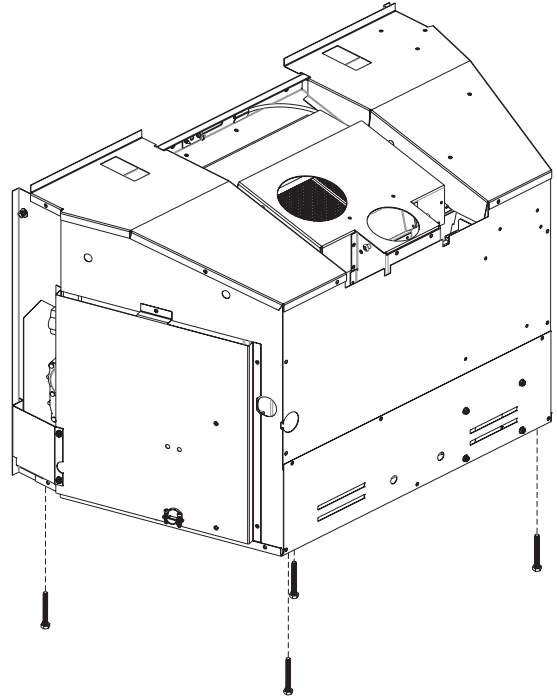

Figure 11
Figure 11 shows the vent termination cap and system approved for use with these models. Approved vent system terminations are labeled for identification. Use 3-inch diameter, flexible aluminum or stainless steel gas venting for the incoming combustion air. Use 4-inch diameter flexible aluminum or stainless steel gas venting for exhaust vent pipe. **No other venting systems or components may be used.** Detailed installation instructions are included with each vent termination kit and should be installed in conjunction with this manual.
NOTICE: The minimum vertical vent rise is 10 feet and the maximum vertical vent rise is 40 feet. These dimensions are measured from the starting collars of the unit to the end of the last section of vent pipe. **See Figure 11**, page 17.
7. Install leveling legs. **See Figure 11.**